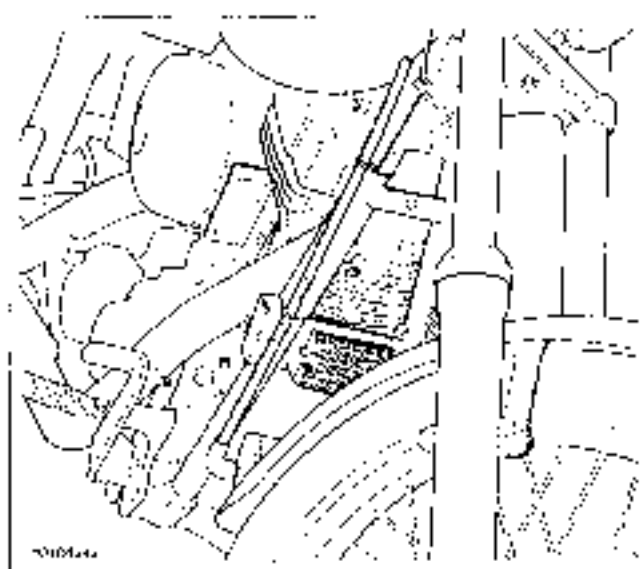

Figure 4-20. Hose Routing Clean Air Inlet Hose
- c. See Figure 4-21. Route over fuel tank crossover tube, to right side canister fitting. See Figure 4-20.